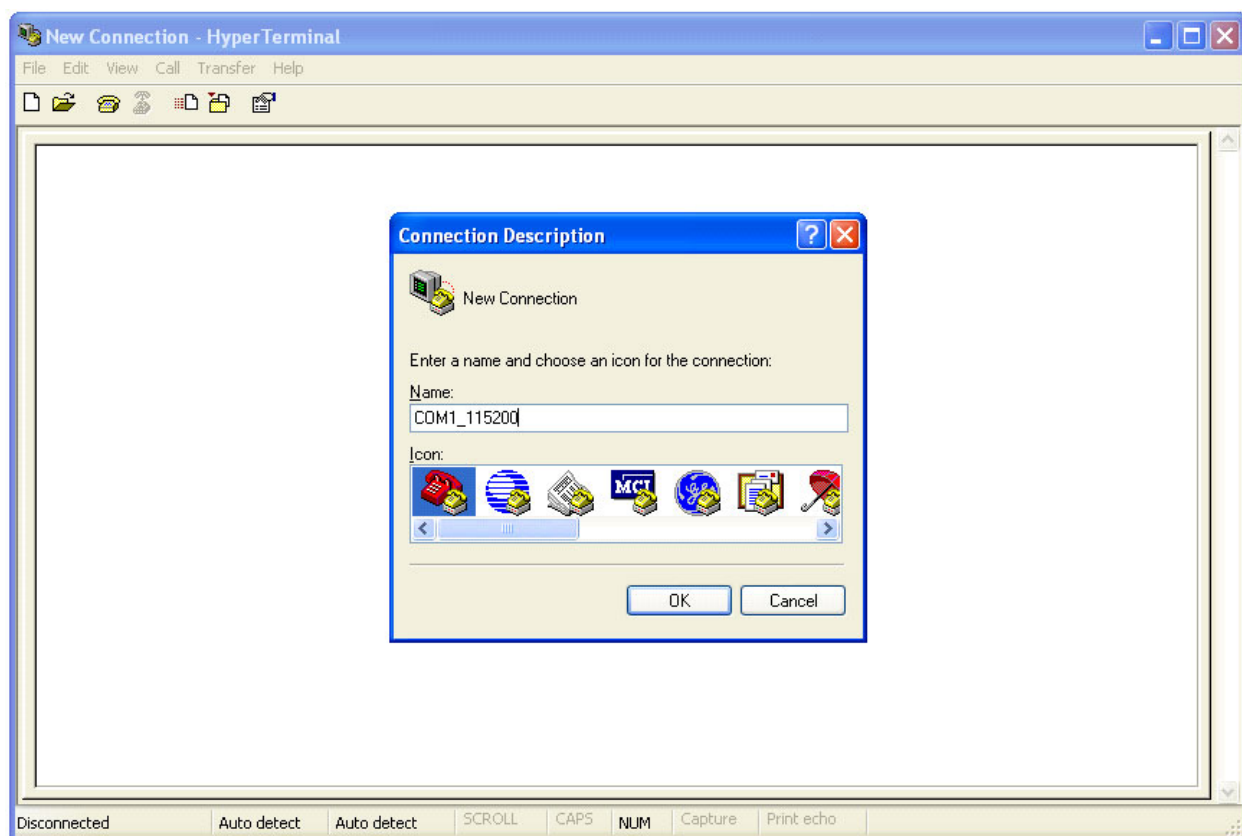

Figure A-10. HyperTerminal GUI
2. The HyperTerminal opens, as shown in Figure A-10. Enter the name of the connection and click on the **OK** button.